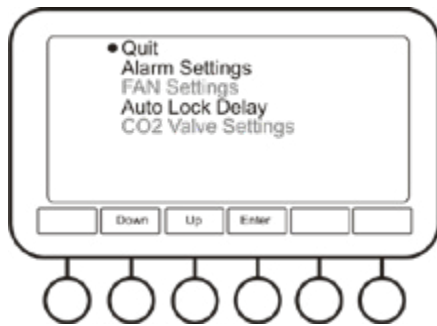

Fig. 8. Settings menu
4.9.3.2 **Settings** (fig. 8). User can access the **Alarm Settings** and **Auto Lock Delay** options.